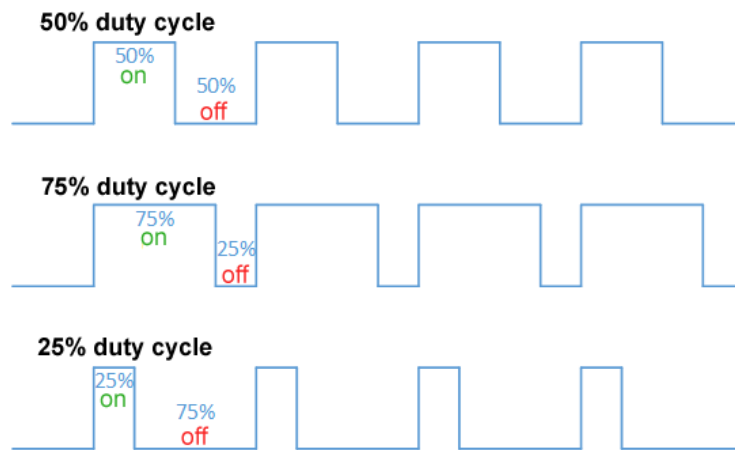
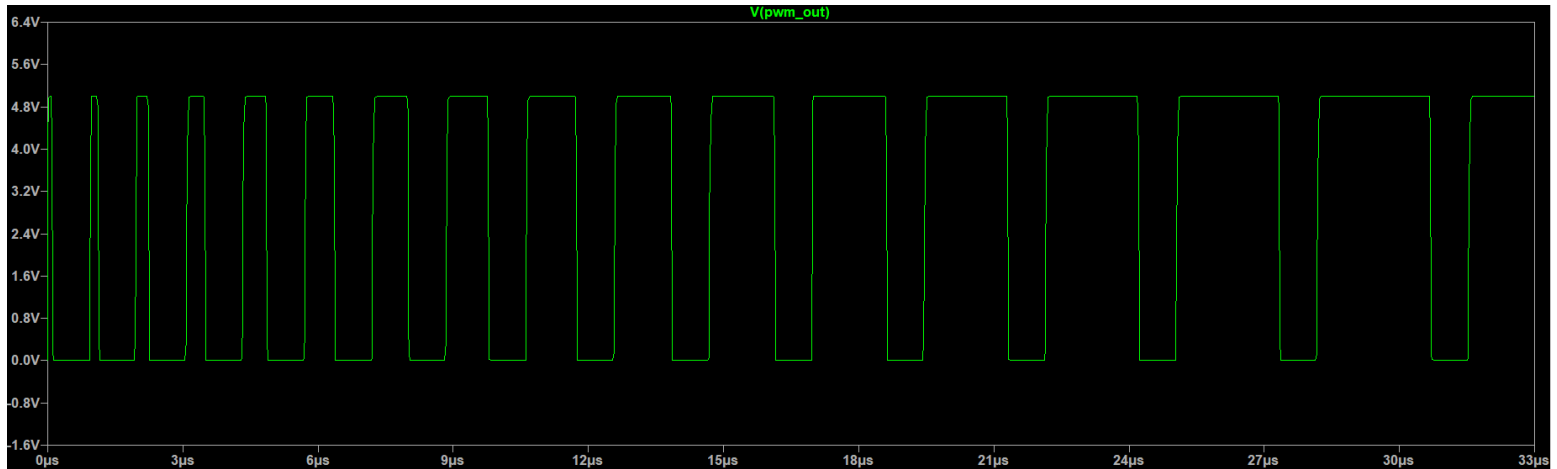

Figure1: PWM Signal example
Figure8: Output Signal
- In the above graph(Figure8) the result of the schematic shown in Fig. 1 is given, without RST logic but with a clock signal given directly to the counter. This output is obtained at the output pin of the 555 timer circuit to see the pulse-width-modulated output.